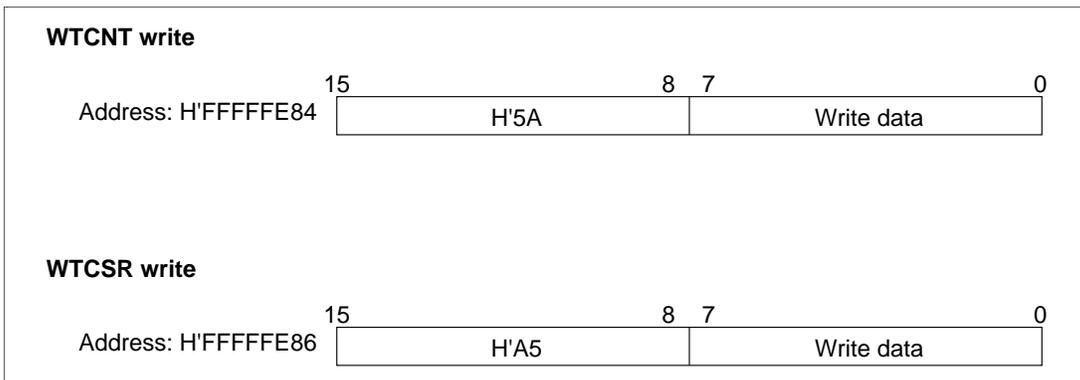

Figure 9.5 Writing to WTCNT and WTCSR
**Writing to WTCNT and WTCSR:** These registers must be written by a word transfer instruction. They cannot be written by a byte or longword transfer instruction. When writing to WTCNT, set the upper byte to H'5A and transfer the lower byte as the write data, as shown in figure 9.5. When writing to WTCSR, set the upper byte to H'A5 and transfer the lower byte as the write data. This transfer procedure writes the lower byte data to WTCNT or WTCSR.